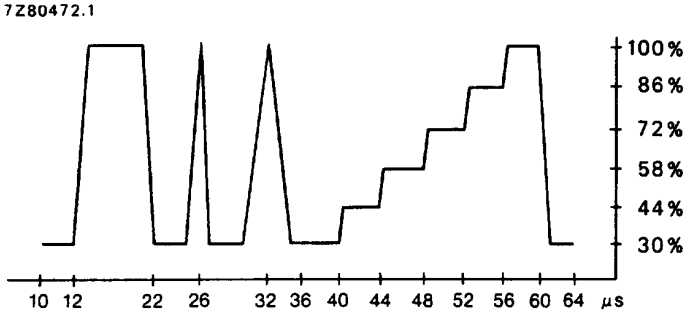

Fig.9 E.B.U. test signal waveform (line 330).
7. Measured according to the test line shown in Fig.9: